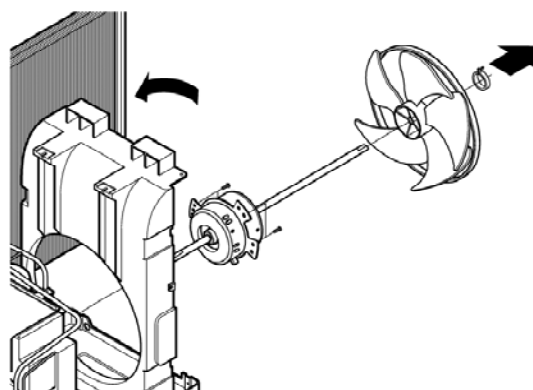

Figure 14
4. Remove the 4 screws which fasten the motor from the Motor Mount. (See Figure 14)
6. Re-install the components by referring to the removal procedure, above.(See Figure 14)